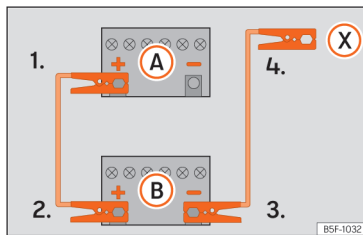
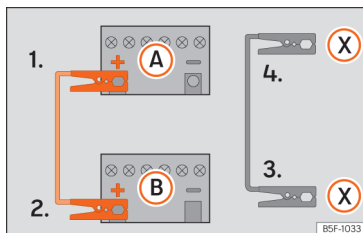

Fig. 192 Diagram of connections for vehicles without Start Stop system
Fig. 193 Diagram of connections for vehicles with Start Stop system
The jump leads should only be connected in the order **1 > 2 > 3 > 4** »» Fig. 193.
4. *Vehicles without a Start-Stop system:* connect one end of the *black* jump lead to the negative terminal (-) of the vehicle providing the current **B** »» Fig. 192. *Vehicles with a Start-stop system:* connect one end of the *black* jump lead **X** to a suitable ground terminal, to a solid piece of metal in the engine block, or to the engine block itself »» Fig. 193.